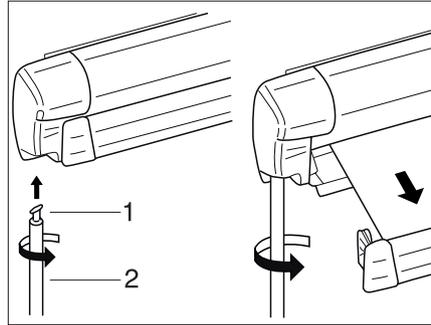

Fig. 11 Awning
- ▶ Insert the hook (Fig. 11,1) of the crank rod (Fig. 11,2) into the lug and turn by 90°.